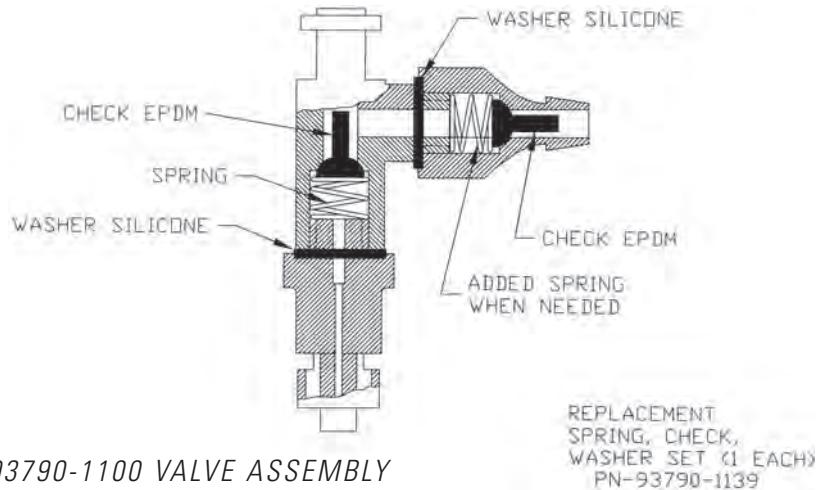

Figure 3
**SEE FIGURE 3 FOR CORRECT VALVE (SHOWN WITH AQUEOUS VALVE)
**SEE FIGURE 3 FOR CORRECT VALVE